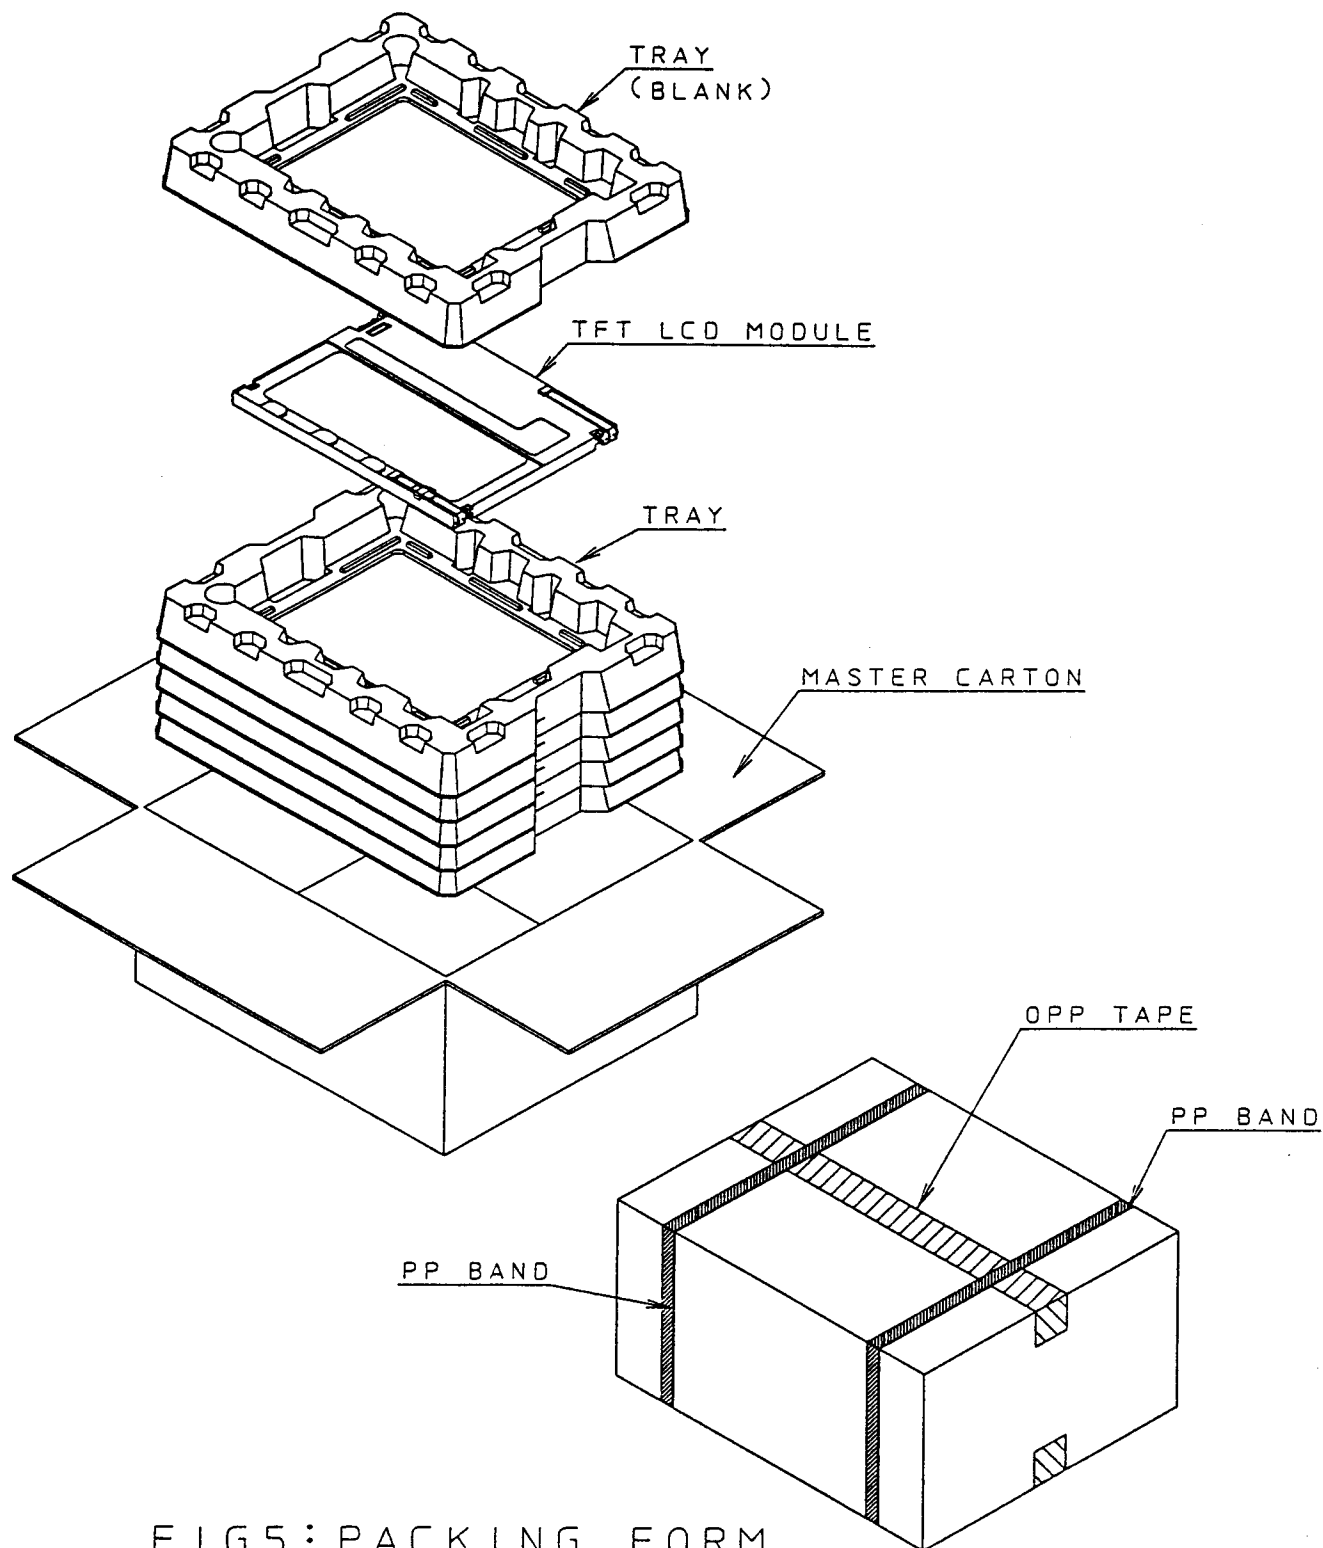

FIG5: PACKING FORM
- e) Packing form is shown in Fig.5